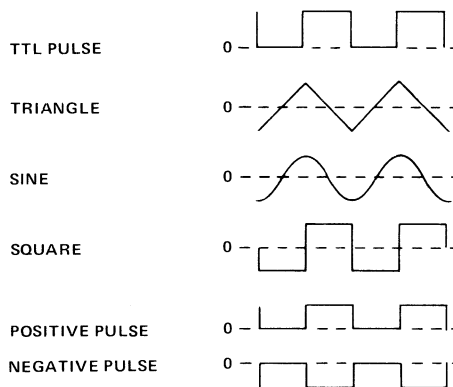

Figure 3-3. Pulse/Waveform Phase Relationship and Waveform Reference Lines
⑨ **Synchronizing Pulse Output Connector**
A fixed amplitude (0 to about 5V) TTL compatible square wave of the generator frequency is provided at the PULSE OUT connector. This output can be used as a synchronizing reference for the main output ⑦. Phase of the waveforms relative to the sync output is shown in figure 3-3.
Offset of waveforms and dc voltage are controlled by the DC OFFSET control. The WAVEFORM switch ⑪ must be in one of the four right-hand settings. Center of the waveform reference (figure 3-3) is skewed positive with clockwise rotation, negative with counterclockwise rotation. Offset and dc voltage maximums are  $\pm 5V$  ( $50\Omega$  terminated).